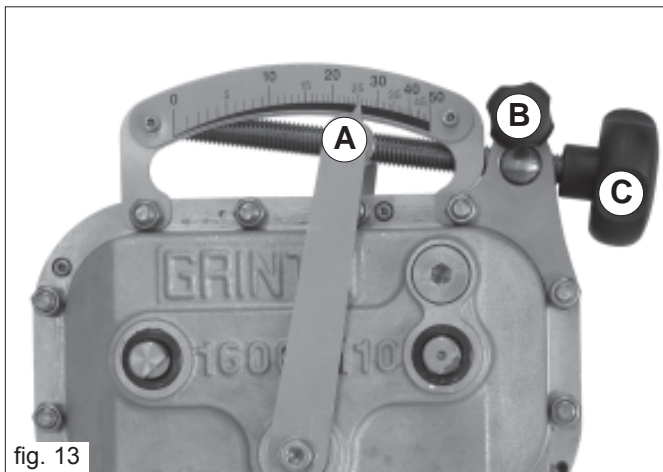

fig. 13
The gear shift is located on the left side of the Seeder and receives motion from the drive gear. From the gear you can change the speed of the seed-distributor groups, by acting on the adjustment index (A), set on a scale of 1 to 50 in a continue way (Fig. 13). Loose the handle (B) and, by it, (C) set the index in coincidence with the value found out. Then tight the handle (B) to lock the position.